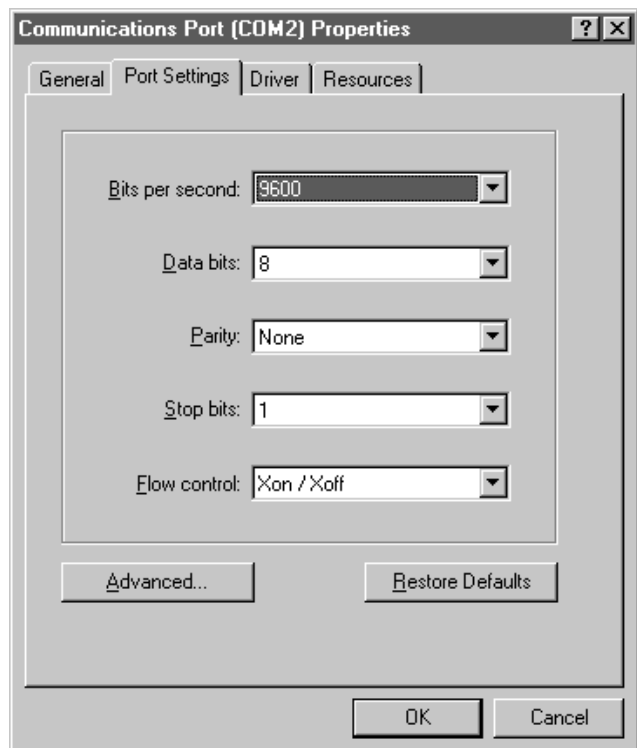

Figure 9-3: COM Port Properties Dialog Box
13. Next, select the Advanced button to bring up the advanced port settings dialog box shown in Figure 9-3